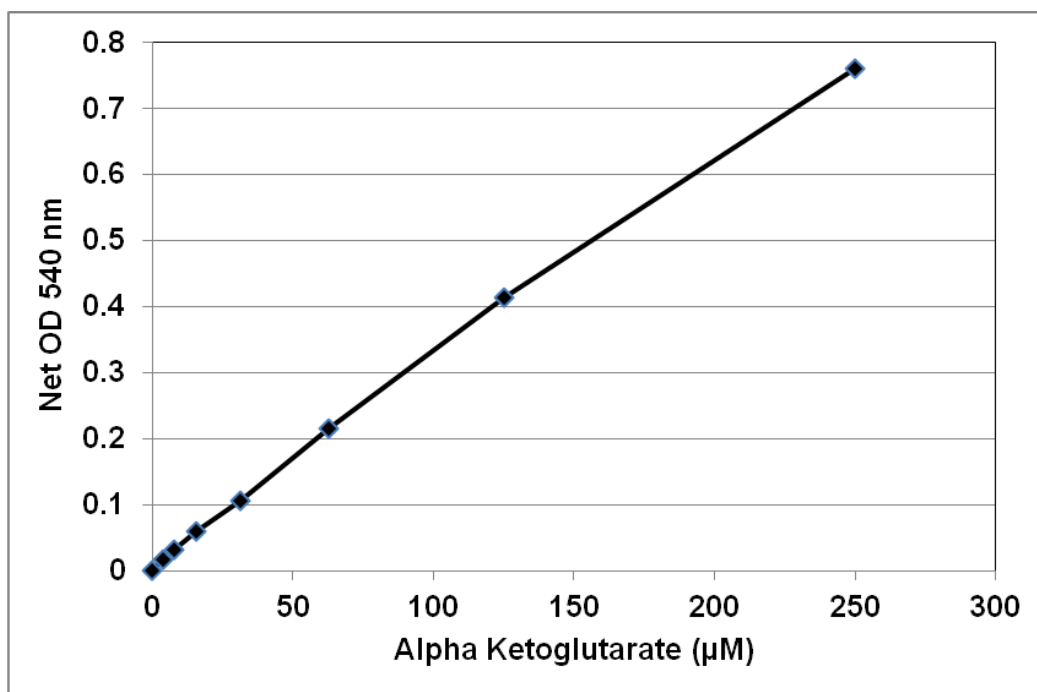

Figure 2: Example α -Ketoglutarate Standard Curve.
3. Plot the corrected absorbance for the standards against the final concentration of the α -Ketoglutarate standards from Table 2 to determine the best curve. Use the 60-minute reading values, or final time point absorbance values, to plot the α -Ketoglutarate standard curve. See Figure 2 for an example standard curve.